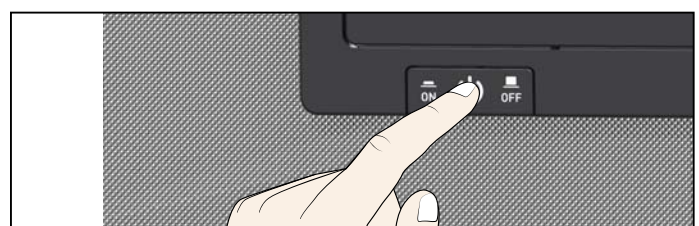

Fig. 23 Switch off appliance
3. Switch off the appliance (Fig. 23).